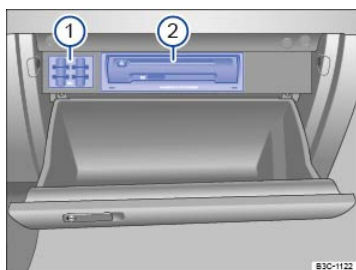

Fig. 176 Inside the glove compartment.
Key to ⇒ Fig. 176 :
Vehicles equipped with an Infotainment system may have a CD player, SD card readers, or other Infotainment System accessories ⇒ Fig. 176② in the glove compartment. See ,Chapter *Infotainment System* for further information.